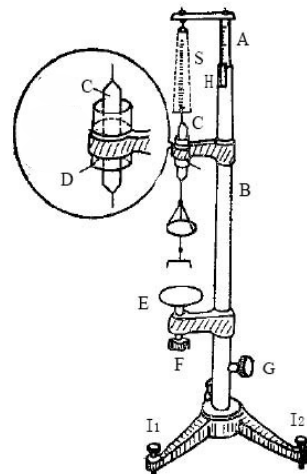

Figure 2. Jolly balance.
As shown in Figure 2, an object with mass  $M$  is set on an air track with a spring attached to both of its sides. The purpose of using the air track is to eliminate frictional forces between moving surfaces. The other ends of the springs are fixed to the air track. The spring constants  $k_1$  and  $k_2$  are to be measured with the Jolly balance. The origin ( $x = 0$ ) of the coordinate system is set at the equilibrium position of the mass  $M$ . Assuming that the masses of the springs can be ignored, and neglecting damping in the
In order to measure the spring constant using the Jolly balance, we need to place the small mirror  $C$  (see Figure 2) in the tube  $D$  and make three lines coincide: the line on the mirror, the line on the glass tube and its reflection in the mirror. First, without adding any weight on the bottom end of the spring, adjust the knob  $G$  and make the three lines coincide. Then read the scale  $L_1$ .
1. Adjust the Jolly balance to be vertical: Attach the spring and the mirror as shown in Figure 2. Add a 20 g **preload** and adjust knob  $I_1$  and  $I_2$  to make sure the mirror can move freely through the tube.